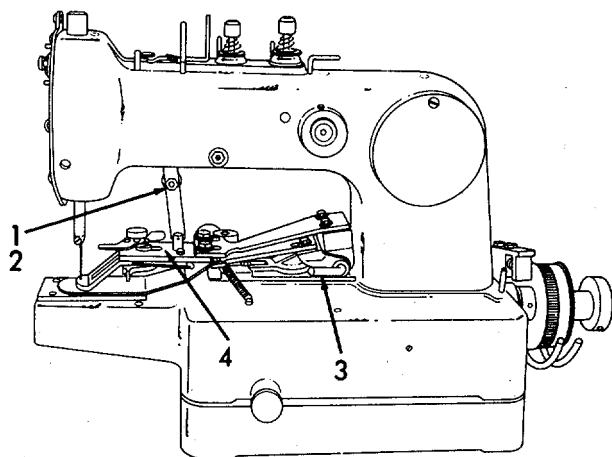

Figure 6-127. Button Clamp, Removal.
a. *Removal (Refer to Figure 6-127).*